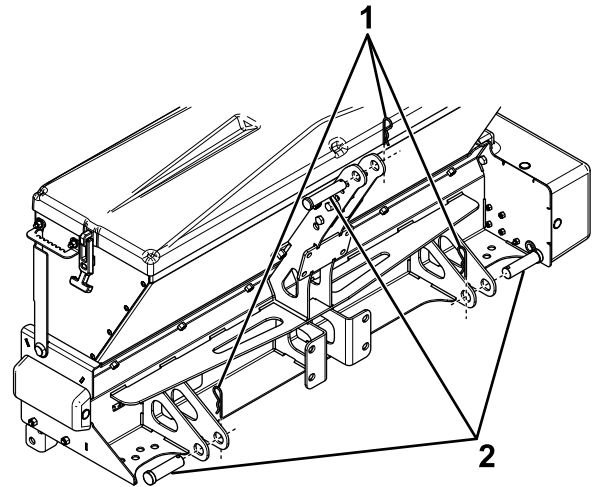

Figure 20
2. Slowly drive the tractor up to the spreader and lower the lift arms so that they align with the lift pin brackets (Figure 20).
3. Secure the spreader lift pin brackets to the tractor using 2 clevis pins (7/8 inch) and cotter hairpins (Figure 20).
4. Lean the spreader back and attach the mast brackets to the tractor mast using a clevis pin (3/4 inch) and cotter hairpin (Figure 20).